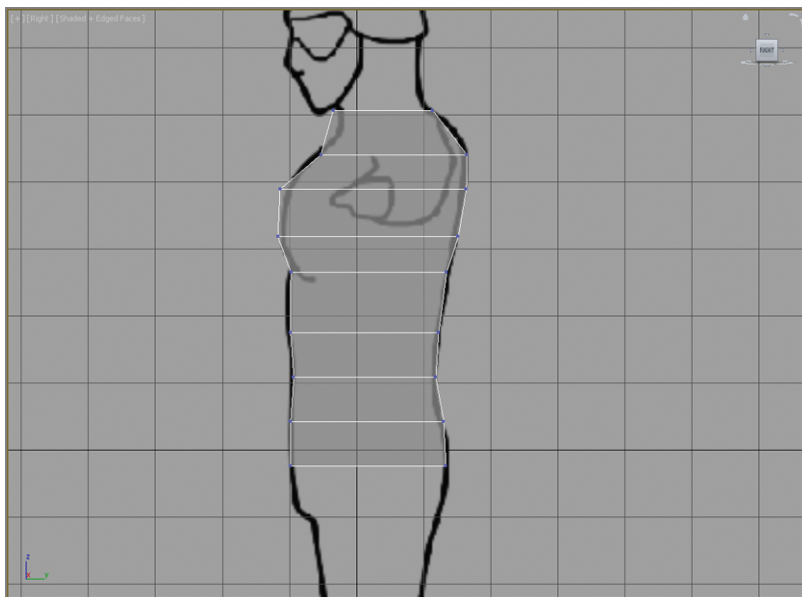

FIGURE 7.5 Move the vertices to match the soldier image in the Right viewport.
6. In the Right viewport, position the vertices on the right side of the box to match the side outline of the character on the image plane, as shown in Figure 7.5. Use a selection box to select the vertices. This will ensure that you are selecting both the backface vertex and the vertex that can be seen in the viewport.